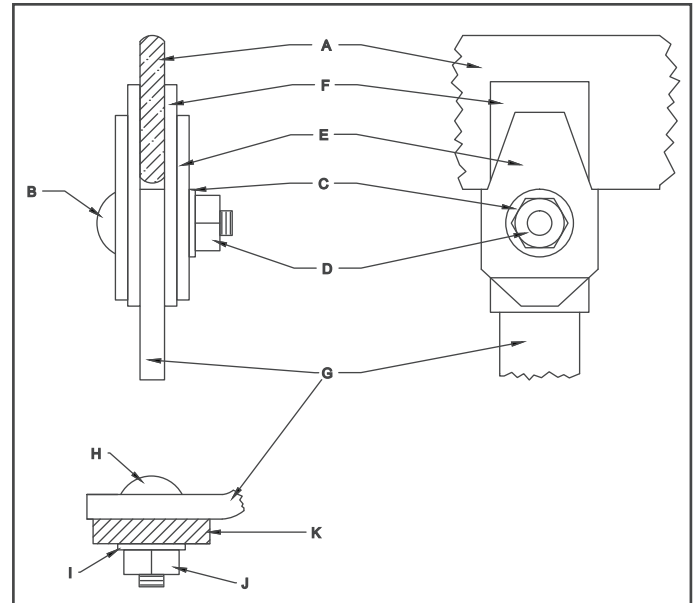

Figure 14
1. Refer to Figure 14 for parts identification.